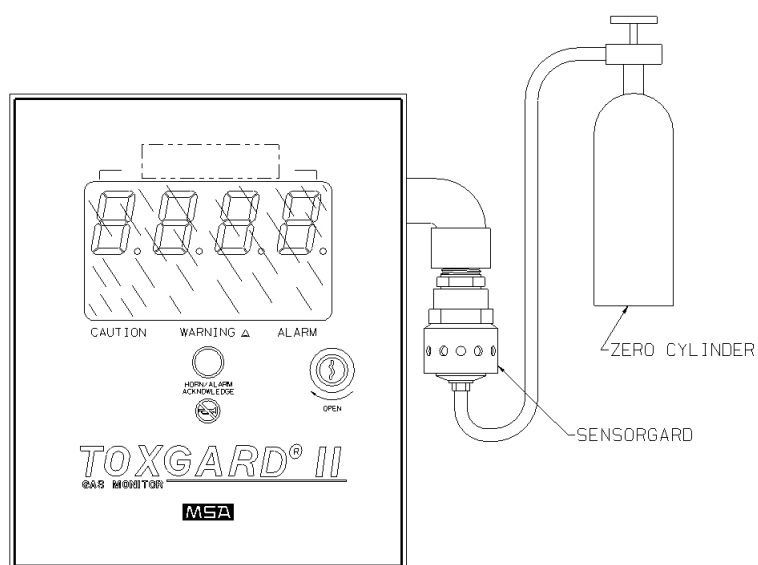

Fig. 26 Zero Gas Connection
- e) Connect the other end of the tubing over the SensorGard inlet (Fig. 26 "Zero Gas Connection").
- Connect the other end of the tubing over the SensorGard inlet (Fig. 26 "Zero Gas Connection").